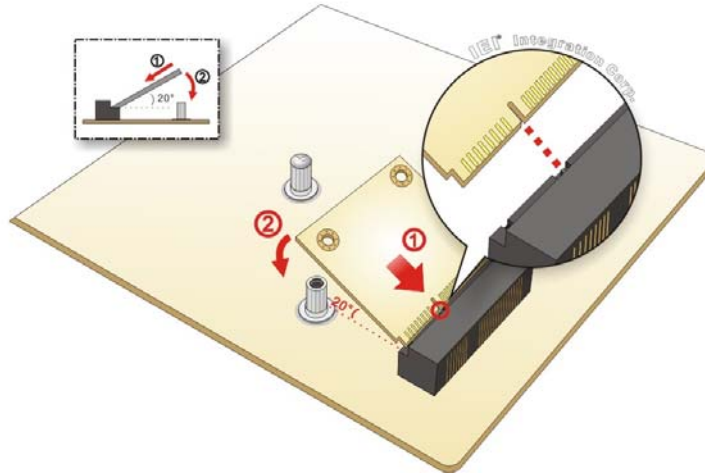

Figure 3-14: Inserting the Half-size PCIe Mini Card into the Slot at an Angle
Step 4: Insert into the socket at an angle. Line up the notch on the card with the notch on the slot. Slide the PCIe Mini card into the socket at an angle of about 20° (Figure 3-14).